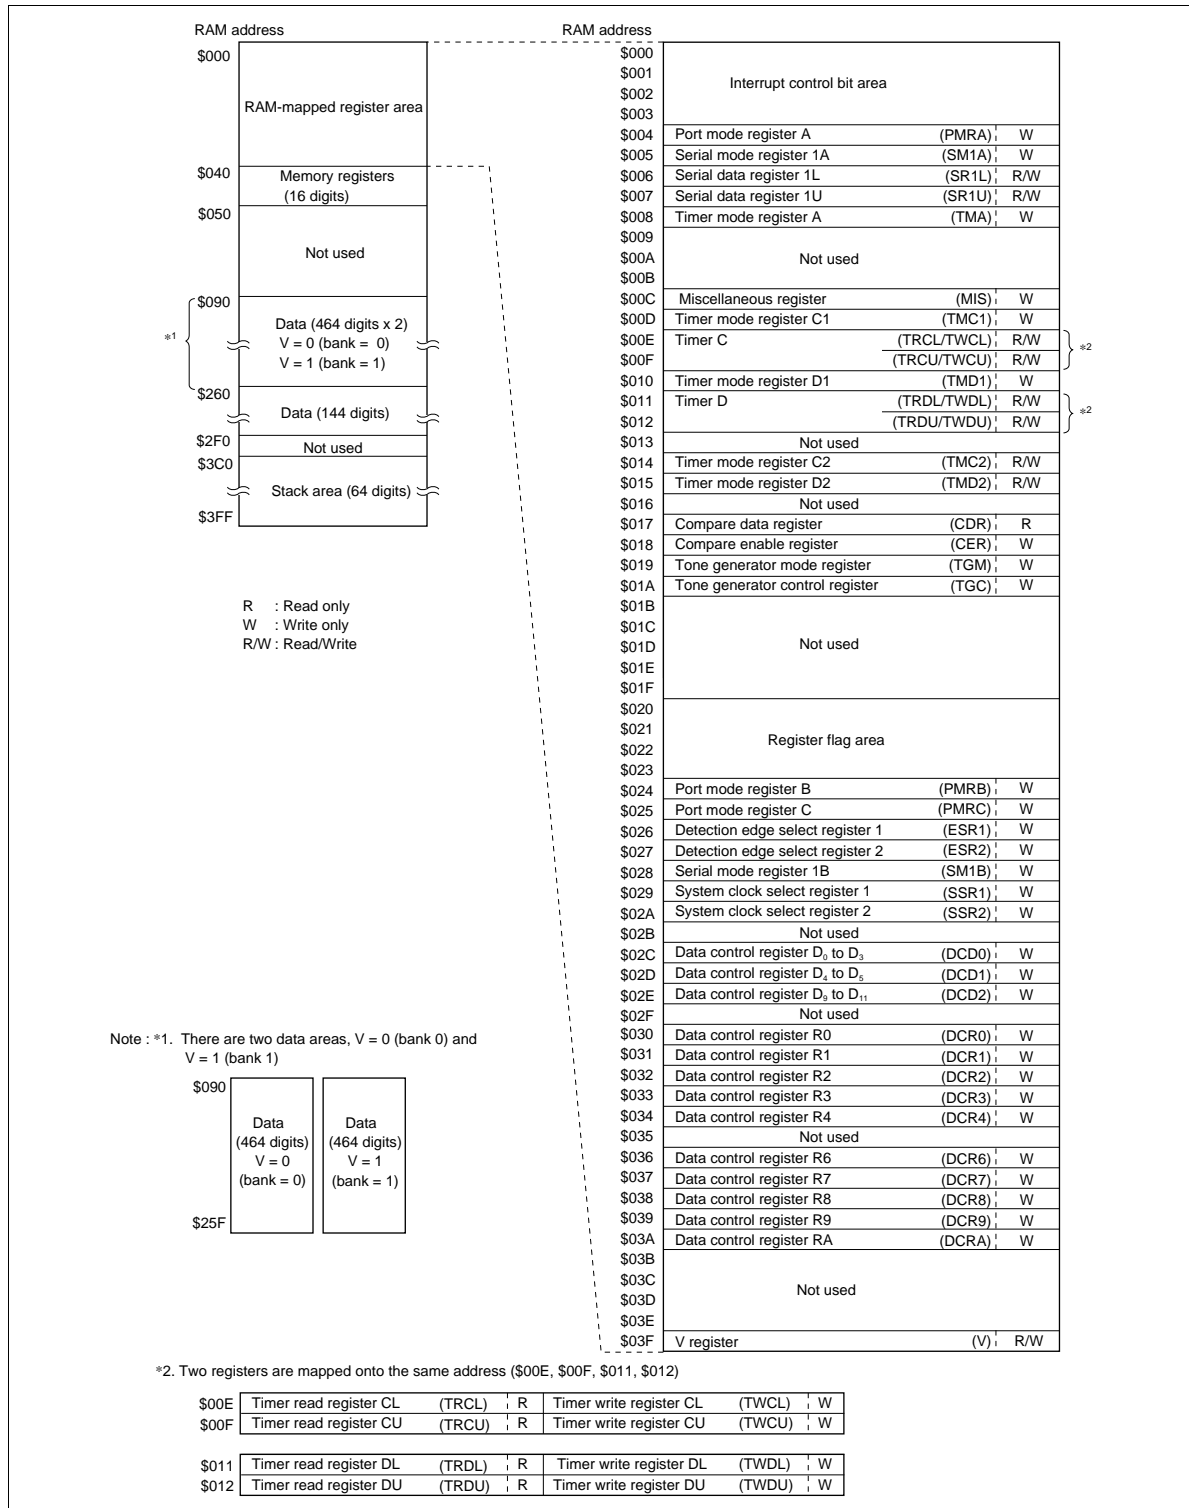

Figure 2 RAM Memory Map
The MCU contains a RAM area consisting of a memory register area, a data area, and a stack area. In addition, an interrupt control bits area, special function register area, and register flag area are mapped onto the same RAM memory space. The RAM memory map is shown in figure 2 and described below.
This area is used as mode registers and data registers for external interrupts, serial interface, timers, DTMF, comparator, and as data control registers for I/O ports. The structure is shown in figures 2 and 5. These registers can be classified into three types: write-only (W), read-only (R), and read/write (R/W). RAM bit manipulation instructions cannot be used for these registers.